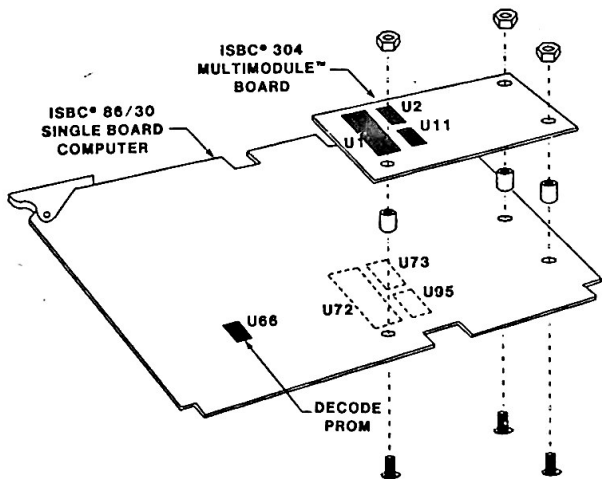

Figure 4-1. Installing the 304 RAM Board
6. Insert the iSBC 304 board mating pins into socket U72 and other mating pins, orienting the board as shown in Figure 4-1.